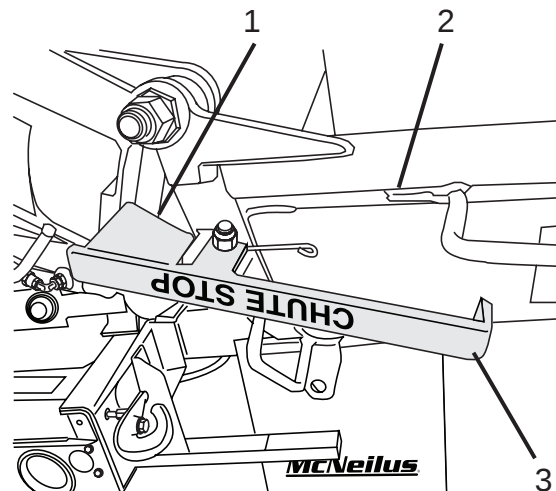

Figure 43
As the chute is unfolded, the “Chute Stop” tab (Figure 43, Item 1) will make contact with the main chute, preventing the chute from slamming down against the main chute.
1. Support the fold-over chute (Figure 43 Item 2).
2. Depress the handle (Figure 43, Item 3) until the stop tab (Figure 43, Item 1) clears the main chute, and lower the fold-over chute.